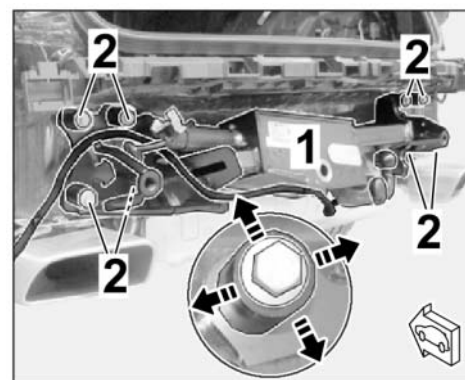

Figure 6
- 2.1.1 Install the trailer hitch using 8 new bolts (M12 x 1.5 x 90) at the left and right and tighten hand-tight. ⇒ *Figure 6*
- 2.1.2 Align bolt guides for the trailer hitch (8 x) symmetrically with respect to the 8 bolt heads M12 x 1.5 x 90. ⇒ *Figure 6 -Magnifier-*